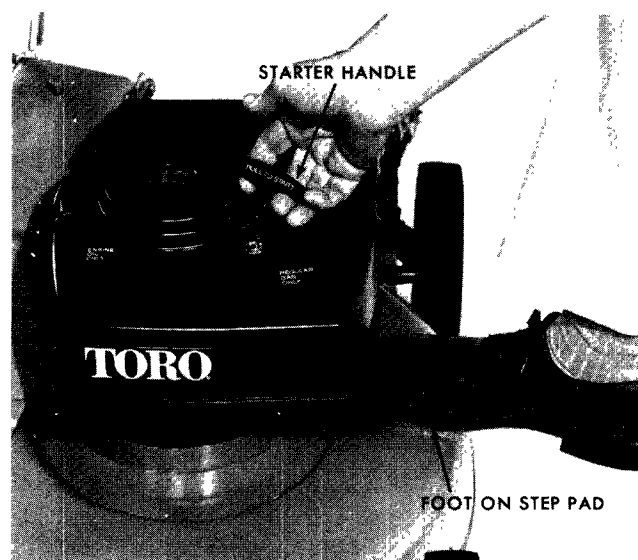

Figure 16
3. Start mower from the left side only. Place foot on step pad on housing as shown in Figure 16 and grasp starter handle. Keep other foot away from beneath housing. Pull with a full stroke to start engine. Do not allow starter rope to snap back. Allow fingertip starter handle to return slowly by keeping hold of starter handle.